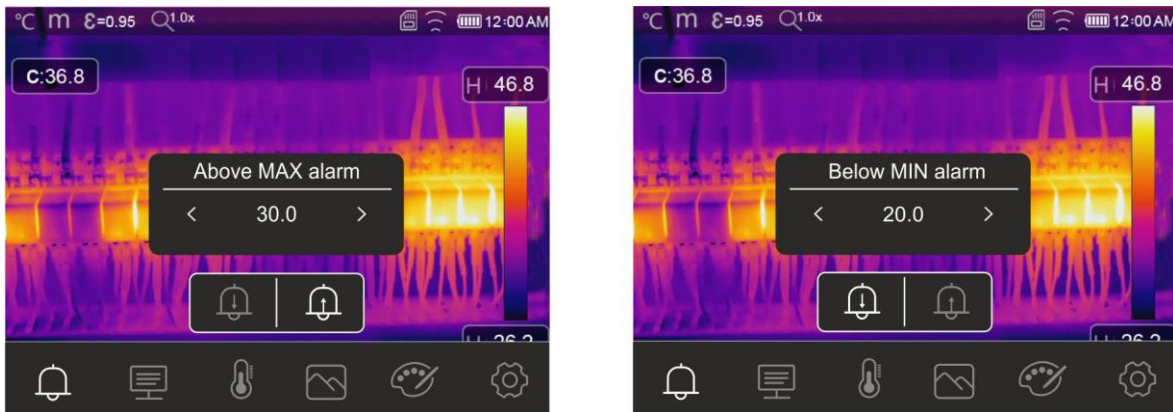

Fig. 45: Setting of limit thresholds on alarms
3. Touch the icon “” to define the **high** threshold value associated with the alarm. The screen in Fig. 45 – left side appears on the display.
5. Touch the icon “” to define the **low** threshold value associated with the alarm. The screen in Fig. 45 – right side appears on the display.